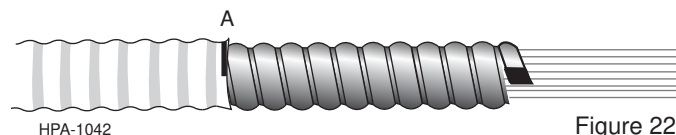

Figure 22
5.13 Remove the jacket from the interlocking armor back to the A mark (Figure 22).